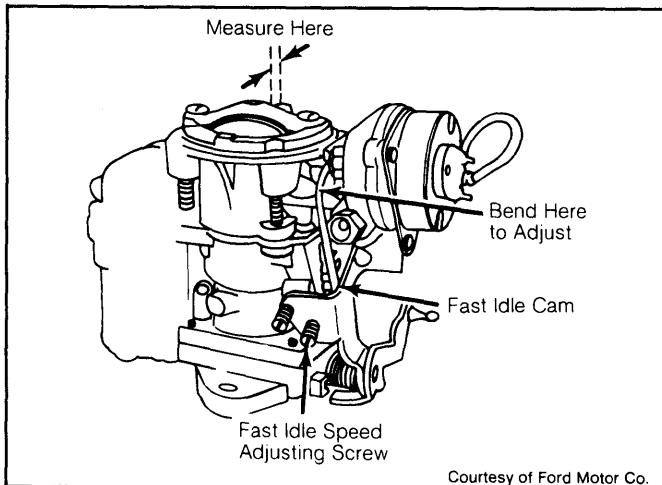

Fig. 9: Fast Idle Cam Position
1) Place fast idle speed screw on kickdown step of fast idle cam, against shoulder of highest step. See Fig. 9.